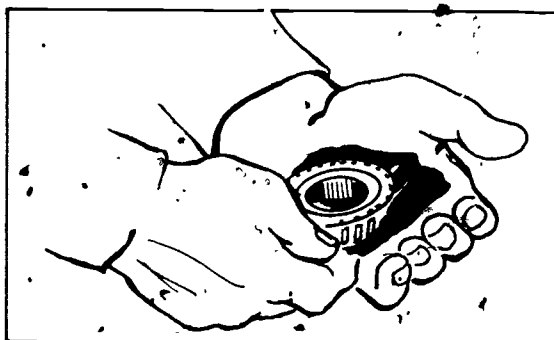

FIGURE 5
3. Force grease between rollers (or balls) by pressing bearings into grease and against palm of left hand (Figure 5)